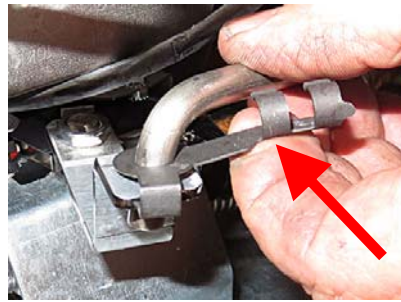

Figure 83
81. Attach the dispose handle assembly 1080686 to the dispose switch valve assembly with the clevis clip (see Figure 83).